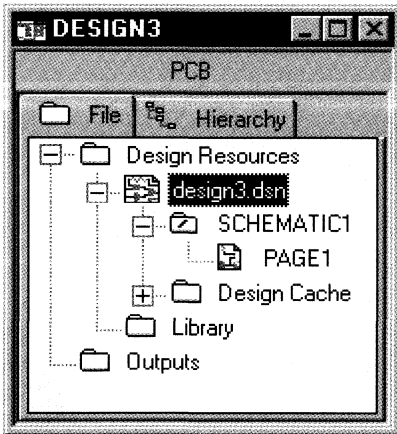

Figure 2 New project manager window
You use the project manager to collect and organize all the resources you need for your project. These resources include schematic folders, schematic pages, part libraries, parts, VHDL files, and output reports such as bills of materials and netlists. Figure 2 shows a new project manager window.
- Shown underneath the Design Resources folder is the design folder with the design's schematic folders and schematic pages, and a Design Cache folder that shows all the parts used on the schematic pages. Capture automatically adds any schematic folders or schematic pages that you create to the design folder. (In Figure 2, the design folder is named DESIGN3.DSN.) You can add other files or information using the Project command on the Edit menu. For example, you can add an existing VHDL file to the design folder and later attach the models within that VHDL file to hierarchical blocks on a schematic page.
Tip *The root module for a design has a backslash in its folder icon, as shown in Figure 2 on page 6.*